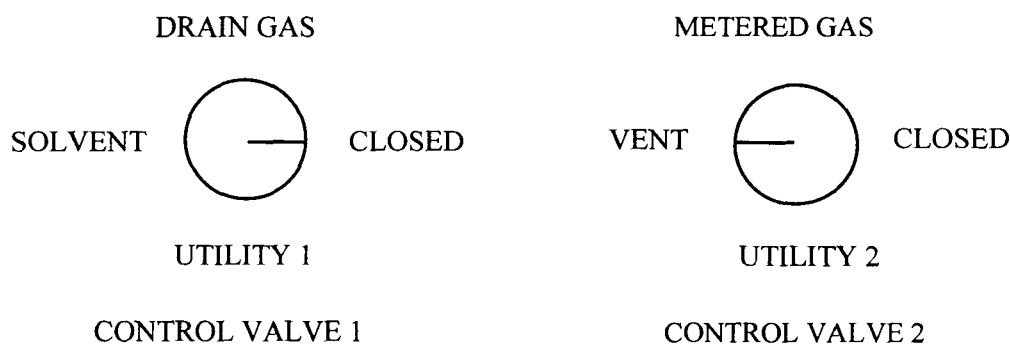

Figure 4-8 Control Valves set to CLOSED and VENT
4. Vent the Reaction Vessels by setting Control Valve 1 to CLOSED and Control Valve 2 to VENT (See figure 4-8).
- a. Set the Manifold Control Valve 2 to VENT. Slowly approaching the VENT setting on Control Valve 2 will gently equalize the pressure and avoid “bumping” the solution (see figure 4-8).